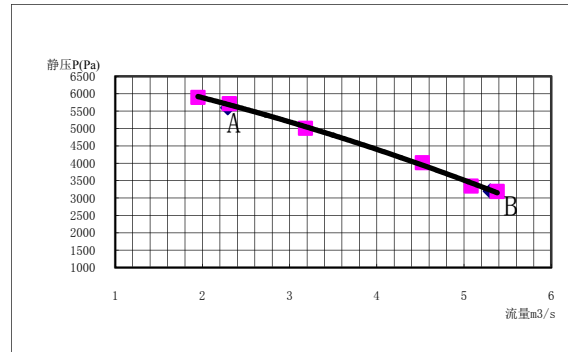

Fig. 2(function curve for example)
3.1. Function curve (see Fig. 2 for example)